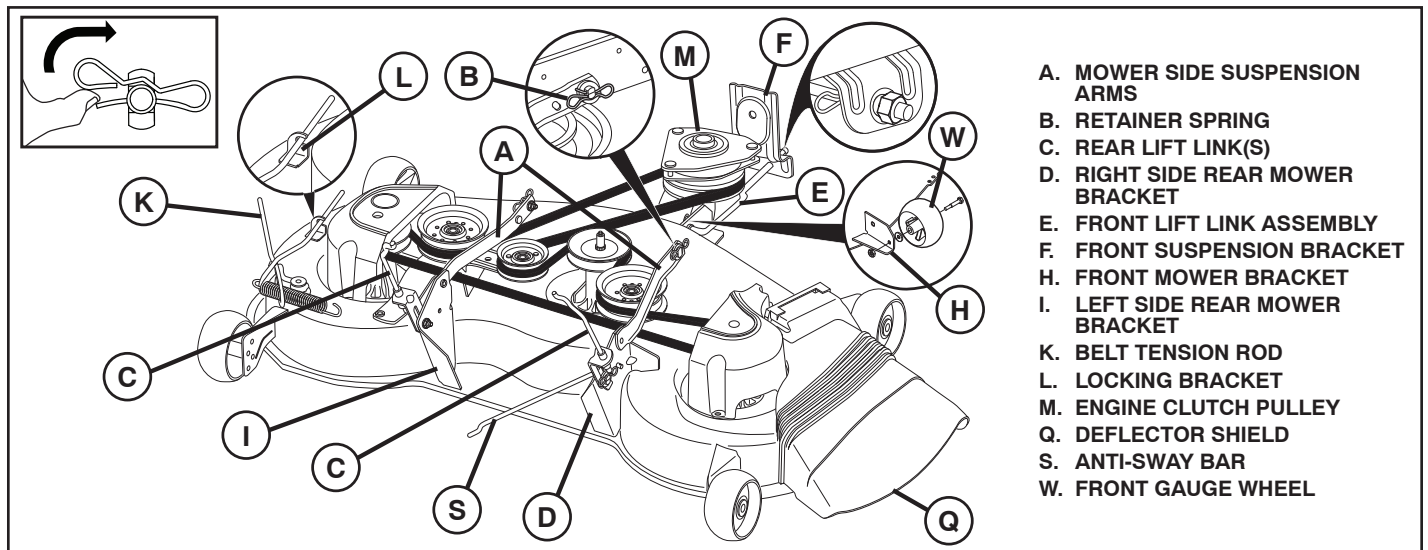

Fig. 20
## TO REMOVE MOWER (See Fig. 20)
## TO INSTALL MOWER (See Figs. 20 - 32)
## 9 INSTALL BELT ON ENGINE CLUTCH PULLEY (M) (See Fig. 20 & 32)
- Disengage belt tension rod (K) from locking bracket (L).
- Install belt onto engine clutch pulley (M).